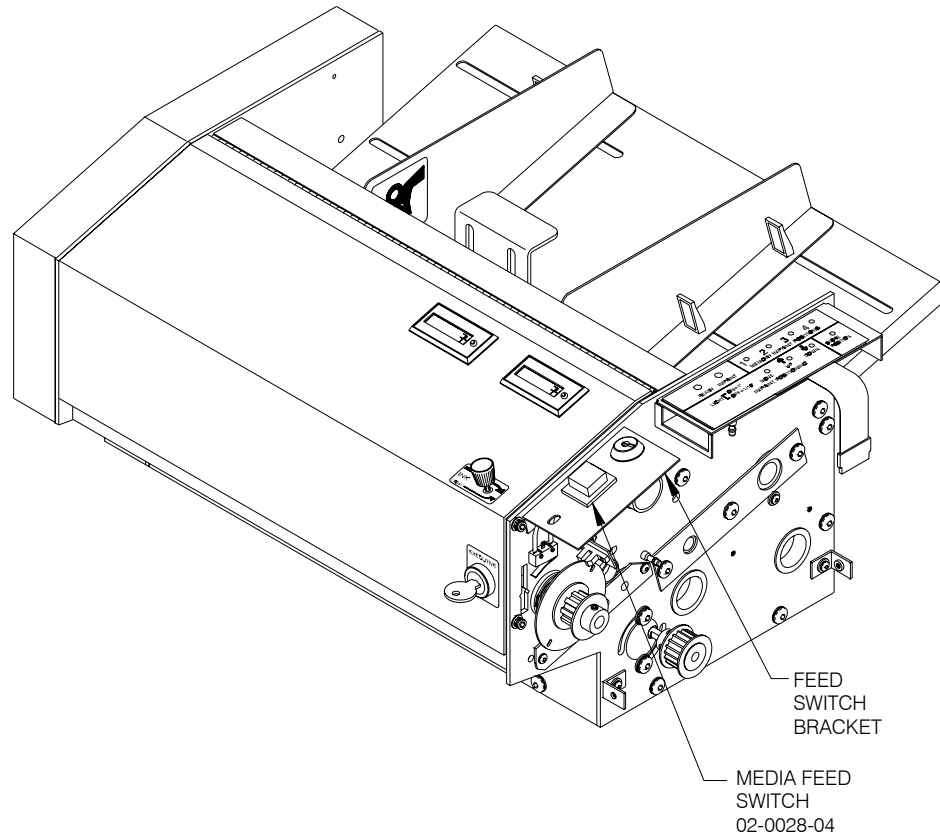

Figure 7.14 -- Replacing the Media Feed Switch
2. Unplug all CONNECTORS from the MEDIA FEED SWITCH. (Refer to **Figure 7.14.**)